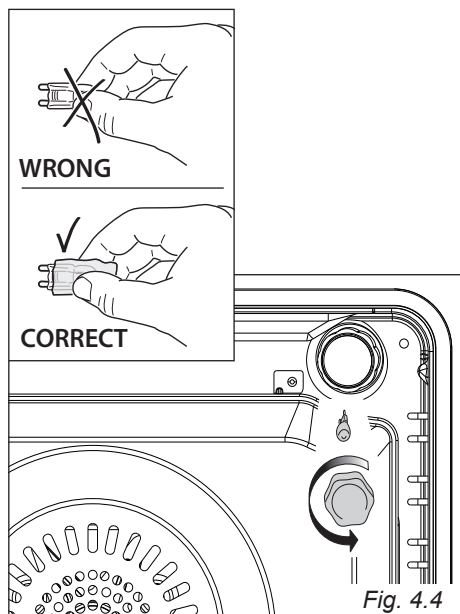

Fig. 4.4
- Remove the protective cover (fig. 4.4 - 4.5).